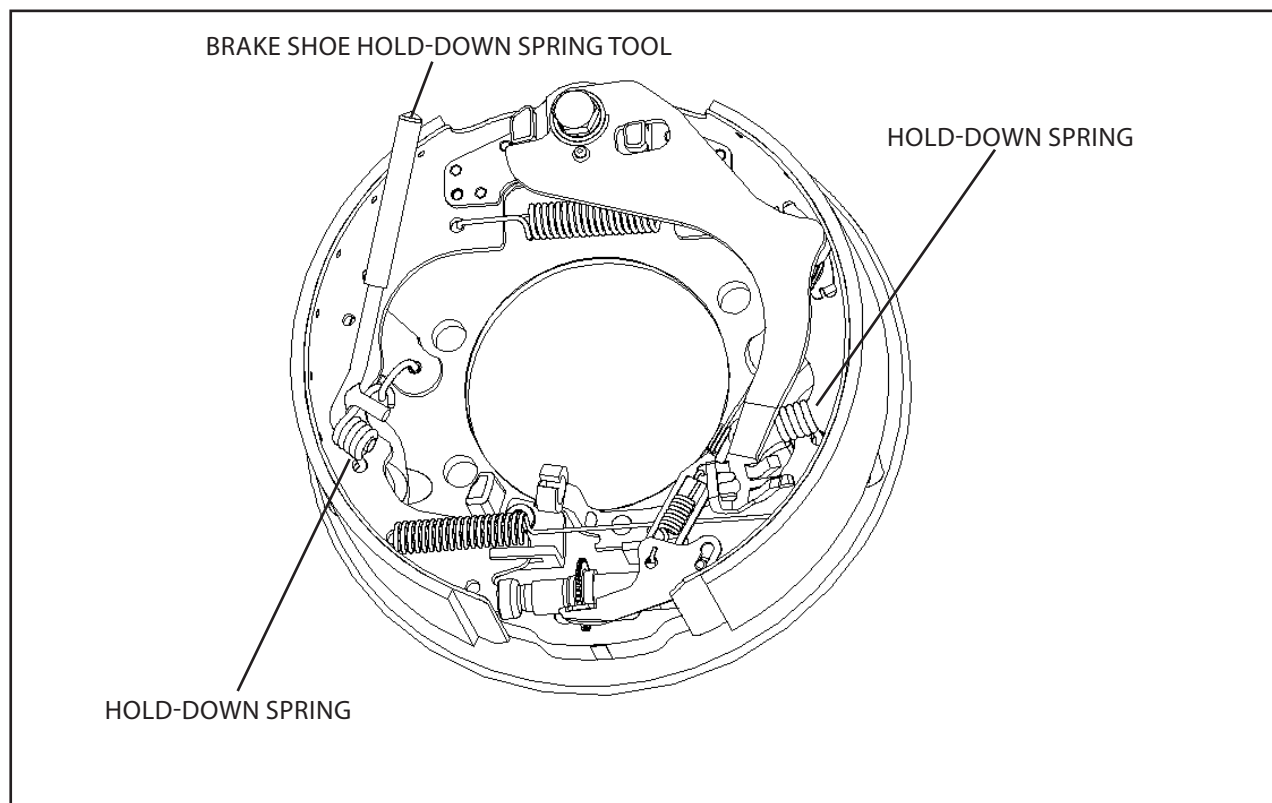
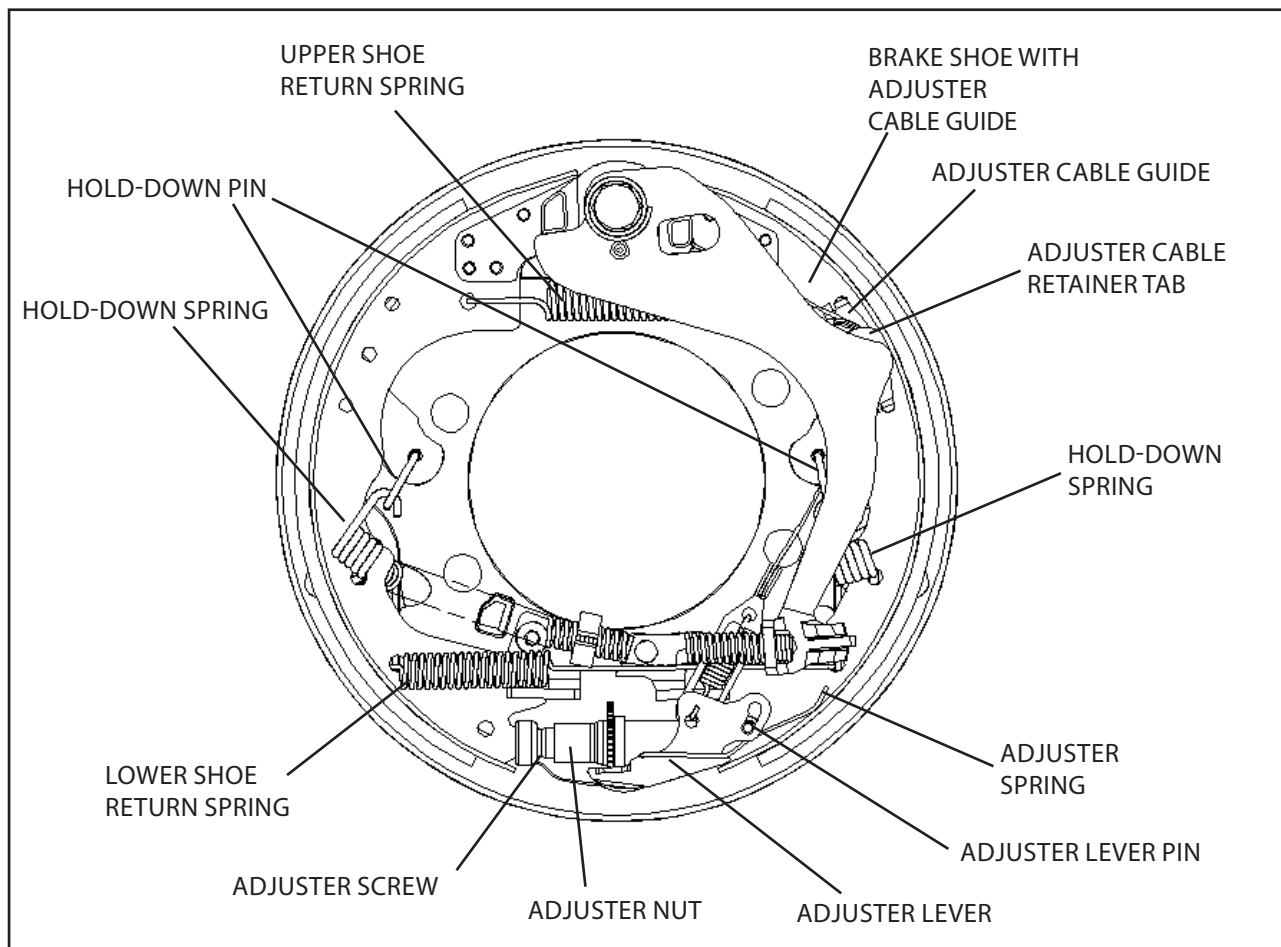

Figure 9. Shoe Hold-Down Spring Removal
Figure 11. Brake Shoe Installation
9. Remove both shoe hold-down springs. Use a brake shoe spring tool as shown in Figure 9.
Note: If the brake is a Release 2 level design with a lever guide present, it will need to be removed to provide access to the spring underneath with the tool shown in Figure 9. Upon removal of the hold down springs, the shoes, and the adjuster nut screw assembly will fall if not secured by hand.
Note: *When installing new shoes, make sure the shoe with the adjuster cable guide and adjuster lever pin is installed on the correct side of the shoe. See Figure 11.*
5. Place one shoe into the installed position. Reattach shoe hold-down spring and pin. See Figures 9 and 11.
For Steps 5 through 10, proper orientation of the various springs, including their hook-ends must be maintained, as shown in Figure 11, for proper brake function.
6. Position the second shoe and the adjuster nut and screw assembly as shown in Figure 11. The adjuster nut (internally threaded) should be seated against the shoe with the adjuster cable guide and pin. Reattach shoe hold-down spring to shoe hold-down pin using the brake spring tool as shown in Figure 9.
7. Install both shoe-return springs as shown in Figure 11.
8. Install the adjuster spring and the adjuster lever. Ensure that the adjuster lever is properly seated against the starwheel as shown in Figure 11.